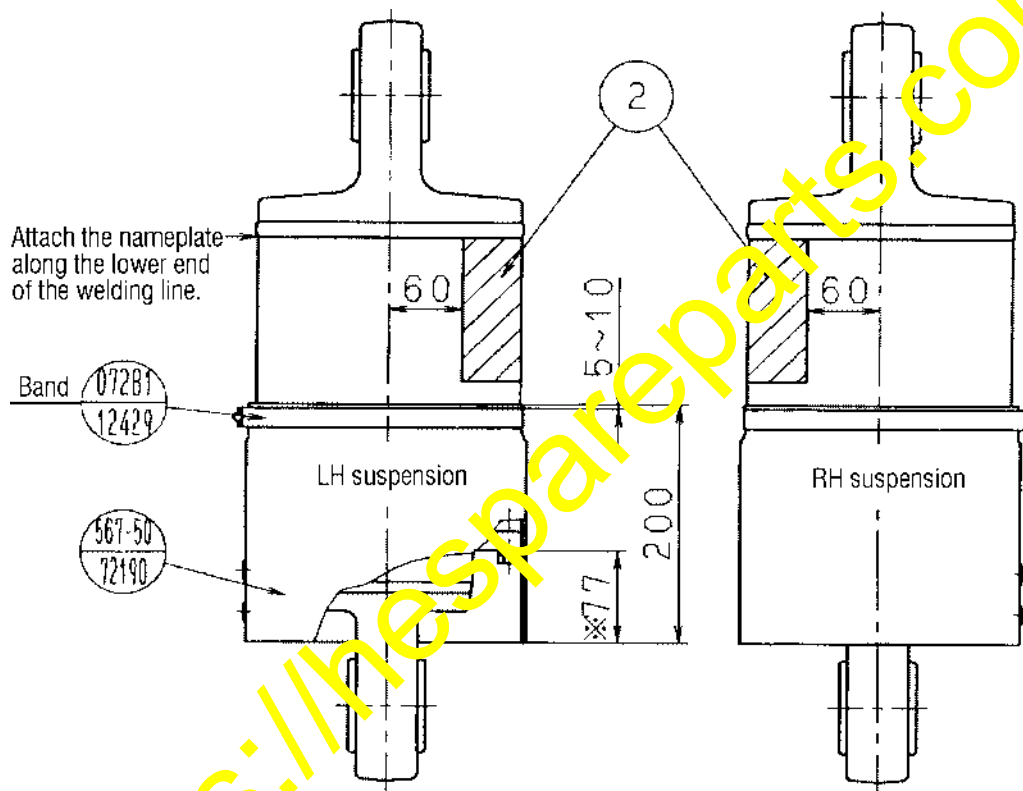

Fig. 2 When the suspensions are viewed from the rear side of the HM350-1 vehicle body
(2) HM350-1 (Refer to Fig. 2.)
- In case of a vehicle on which the larger sized suspension nameplates (①) for domestic use is being attached, since a portion of the nameplate may possibly be hidden by the mud guard, order smaller suspension nameplates (refer to Section 2 “List of parts”) and replace the nameplates as per the dimensional instructions given in the drawing below.